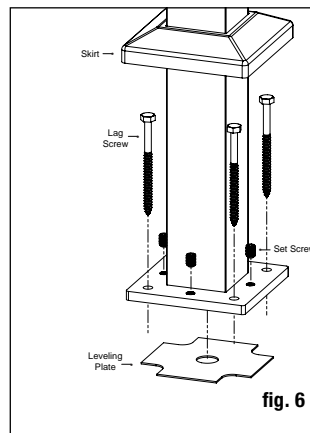

fig. 6
**Step 5** Reposition the post assembly with the leveling plate inserted between the deck and the post base, and aligned with the predrilled holes. Insert the post fasteners (**NOT INCLUDED**), and partially tighten. Using a level, adjust the leveling set screws with a 3/16" allen wrench until the post is plumb. Fully tighten the post fasteners to secure the base to the deck structure. *Note: Recommended 5/16" x 4" or longer lag screws.* (fig. 6)